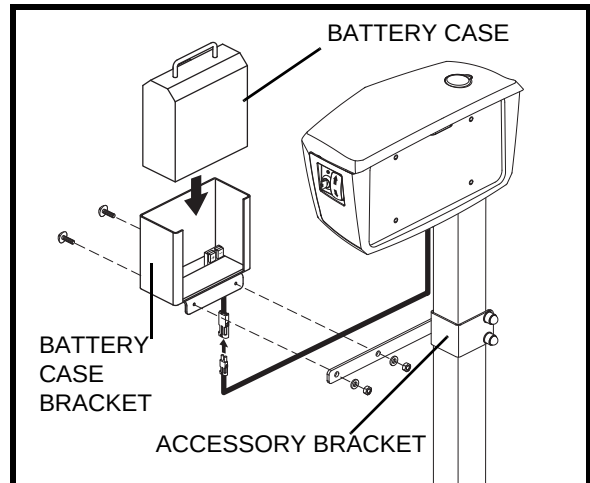

Figure 10. Onboard Battery Installation
3. Align the mounting holes in the battery case bracket with those in the accessory bracket. **See figure 10.**
4. Secure the battery case bracket to the accessory bracket with the supplied hardware. **See figure 10.**
6. Plug the battery cord on the bottom of the battery case into the mating connector running from the motor. **See figure 10.**